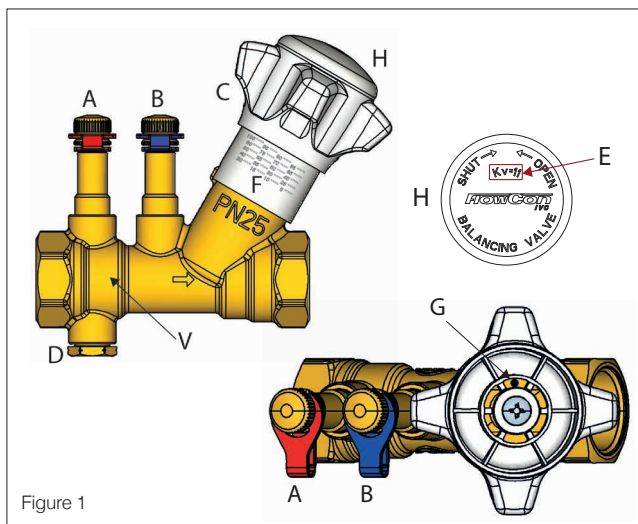
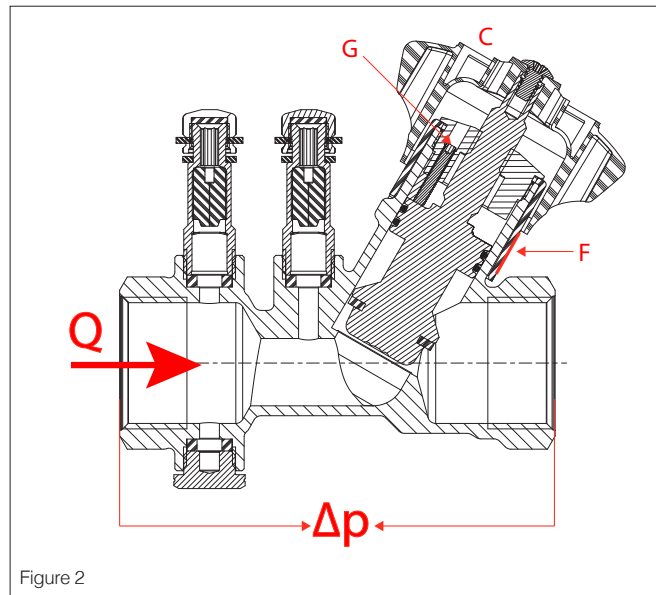

Figure 1
Figure 2
This mechanism works by limiting the handle stroke (ref. C - fig. 2) through a locking screw (ref. G - fig. 2).
- Make the regulation of the FSB valve by means of the handle (ref. C - fig. 2), on the regulation scale (ref. F - fig. 1);
- Screw clockwise until it stops the locking screw of the pre-regulation (ref. G - fig. 2) by using an allen key of: 1,5 mm for versions 1/2", 3/4", 1", 1 1/4"; 2,0 mm for versions 1 1/2", 2".